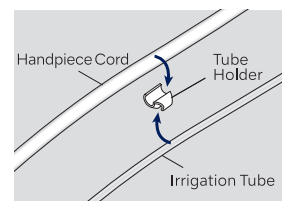

Fig.5
- 5 Push the Tube Holder on to the Handpiece Cord, then push the Irrigation Tube into the Tube Holder at a total of 7 locations. (Fig.5)